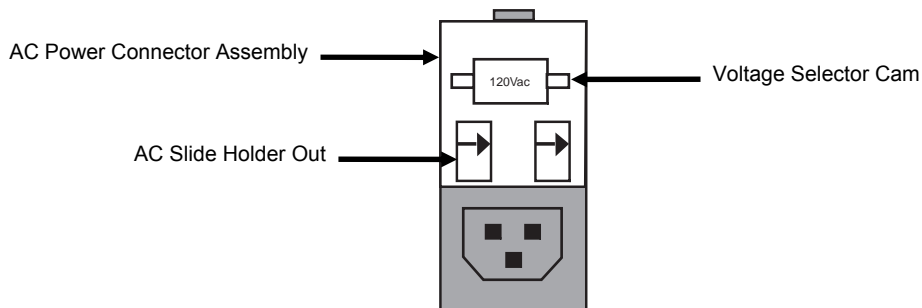

Figure 5-8. Fuse Replacement, Step 5
5. Grasp the top of the fuse holder between the fingernail and tip of the index finger and slide the holder out of the AC power connector assembly. See Figure 5-8.
6. Examine the fuse. See Figure 5-8. If the fuse is blown or defective, grasp the fuse with the thumb and index finger and gently remove it from the holder. Replace the fuse with a new 2-amp, 3AG-type fuse for 110 VAC, or 1-amp, 3AG-type fuse for 220 VAC.